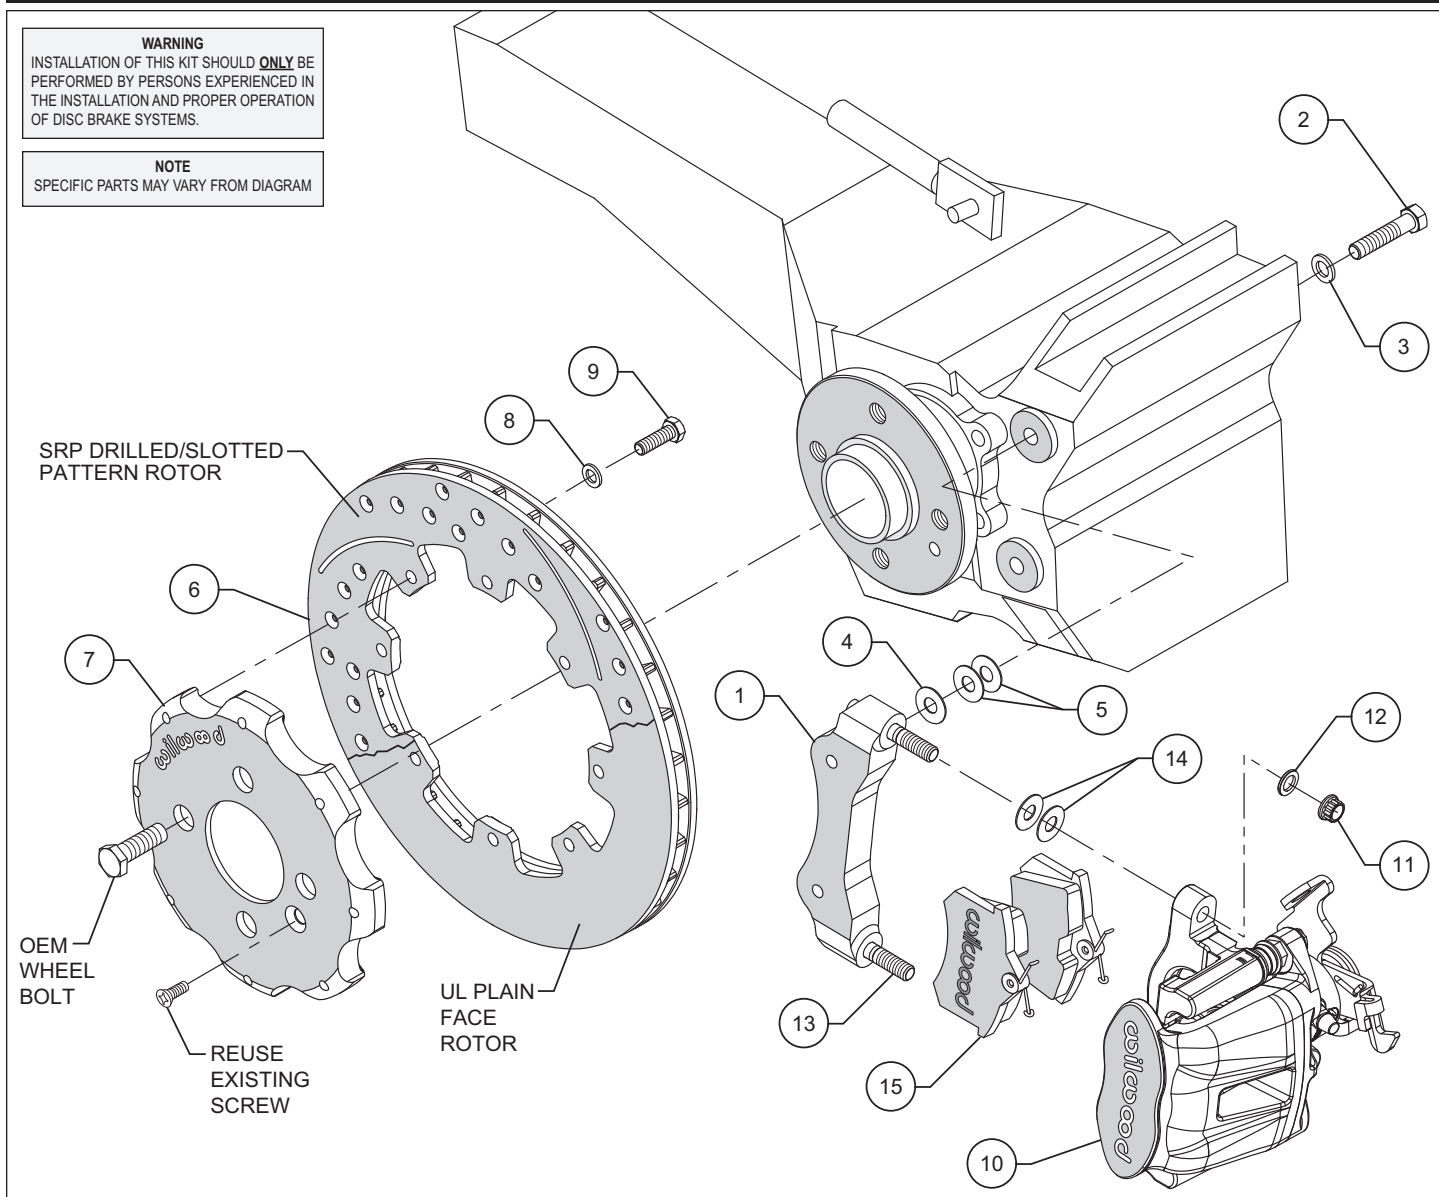
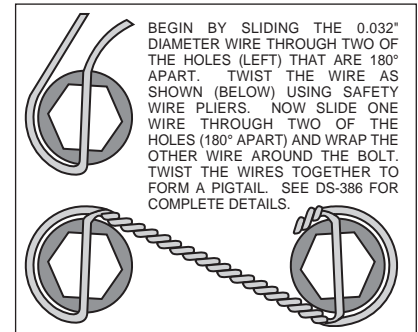

Figure 1. Typical Installation Configuration
Figure 3. Safety Wire Diagram
• The caliper mounting bracket (1) should be installed first with clean, dry threads on the mounting bolts. Install the bracket (1) on the outboard side of the hub assembly by sliding bolt (2) from the inboard side of the arm assembly through washer (3) through the existing OEM caliper mounting holes and thread into caliper mounting bracket (1). Place two shim washer (5) between the bracket (1) and the caliper mounting tabs (see figure 1). The mounting bracket (1) must tighten squarely against the outboard side of the arm assembly face. Inspect for interference from casting irregularities, machining ridges, burrs, etc.
• With the larger I.D. side of the rotor (6) facing away from the hat (7), attach rotor (6) to hat (7) using washers (8), and bolts (9) as shown in Figure 1. Using an alternating sequence, remove bolts one at a time, apply red *Loctite*® 271 to the threads, and torque to 180 **in-lbs**. The rotor mounting bolts (9) must be lockwired using standard 0.032 inch diameter stainless steel safety wire as shown in Figure 3. Please refer to Wilwood's data sheet DS-386 (available at www.wilwood.com/pdf/ds386.pdf) for complete safety wire installation instructions.
• Slide the brake pads (15) up into the caliper (10) from the bottom compressing the "v" spring clip until the pad snaps into place against the caliper bracket, pads should install easily without interference.
• Lubricate caliper mounting studs and nuts with lightweight oil. Install two shims (14) over each stud (13) on the radial mount bracket (1). Slide the caliper (10) in place over the studs and rotor and install the washer (12) and lock nut (11) to hold the caliper in place. The caliper bleed screw should be pointing toward the rear of the vehicle. Snug the lock nuts (11) and check that the caliper (10) is centered over the rotor (6). Add or subtract .016" shims (4) and/or .035" shims (5) as necessary between the caliper mounting bracket (1) and the spindle face to center the caliper (10) on the rotor (6).
• Check that the outside radius of the brake pad (15) is flush with the outside diameter of the rotor face. Add or subtract shims (14) between the caliper (10) and the caliper mounting bracket (1) to gain the proper alignment.
• Check that the caliper is centered side to side on the rotor. Add or subtract shims, (4) and/or (5) between caliper bracket (1) and arm to properly position the caliper.
• Once all clearances have been checked, remove the wheel, caliper and rotor from the axle flange. Secure the caliper mounting bracket (1) to the hub assembly mounting holes while applying red *Loctite*® 271 to the bolt threads (2). Torque bolts (2) to 22 ft-lbs. Reinstall the rotor and again use several wheel bolts to hold it in place. Reinstall the caliper, torque the caliper nuts (11) to 30 ft-lbs.